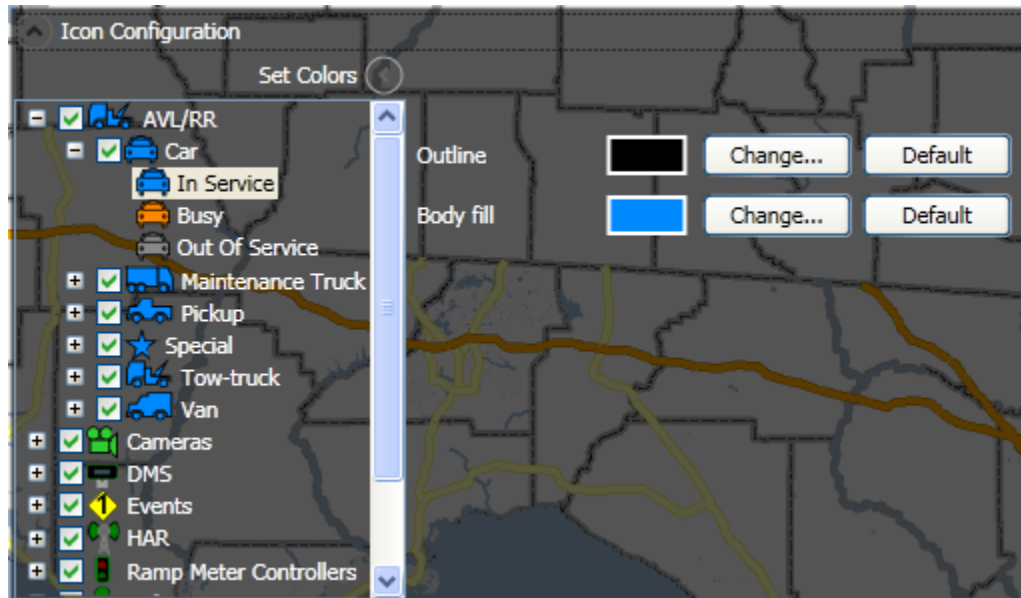

Figure 3-32 – Icon Legend
- **Icon Legend** (see Figure 3-32): This option displays to the operator a legend of field devices that may be displayed on the map. Selection of a category results in all devices within the category to be selected.